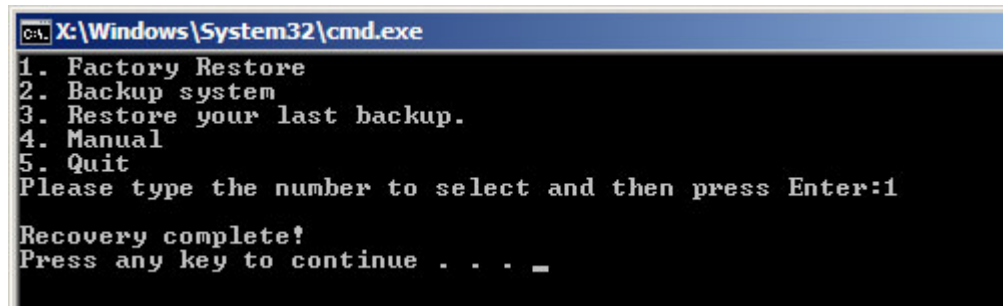

Figure D-36: Recovery Complete Window
Step 3: The screen shown in **Figure D-36** appears when completed. Press any key to reboot the system.